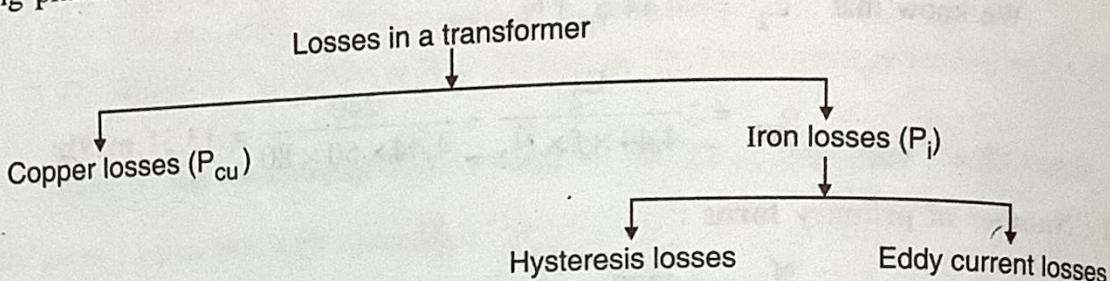

Fig. 6.7.1 : Different losses taking place in a transformer
- As shown in Fig. 6.7.1, the total loss in a transformer can be divided into two types namely the **copper loss** and the **iron loss**.